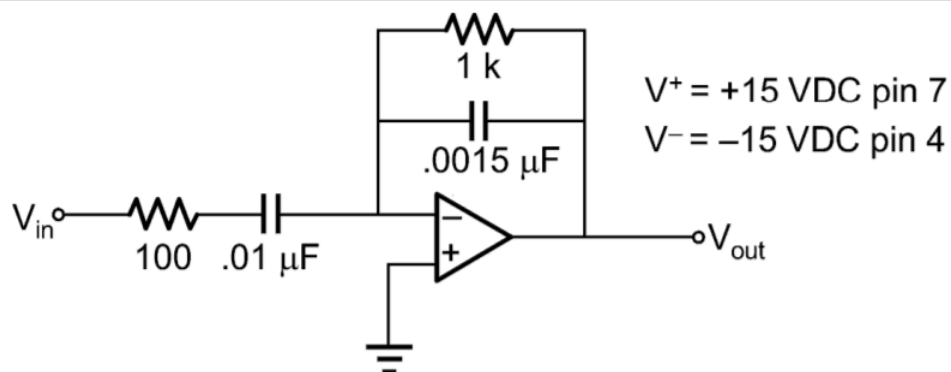

Figure 19.5.1
1. Derive the equation for V_{out} for the circuit of Figure 19.5.1. Calculate the highest usable (“differentiable”) frequency, f_{high} . Record these items in Table 19.7.1.